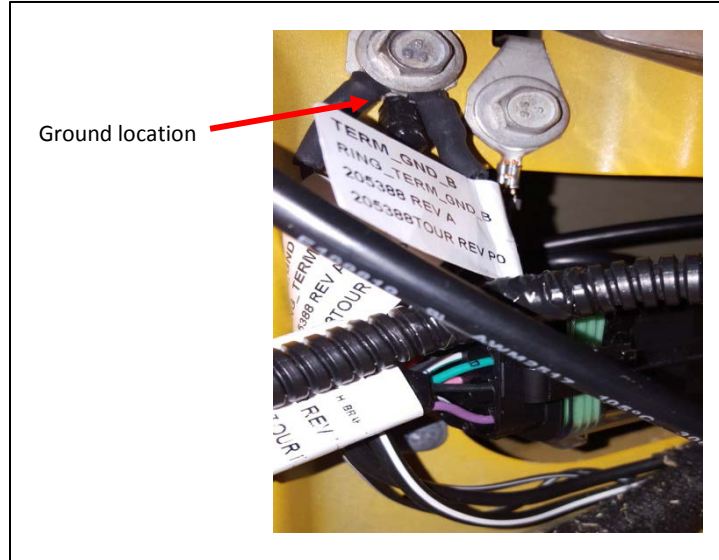

Figure 6 Ground termination location
13. Take the two ground wires, RING_TERM_GND A and B, and ground them using the factory ground location just above the relay mounting. See **Figure 6**.